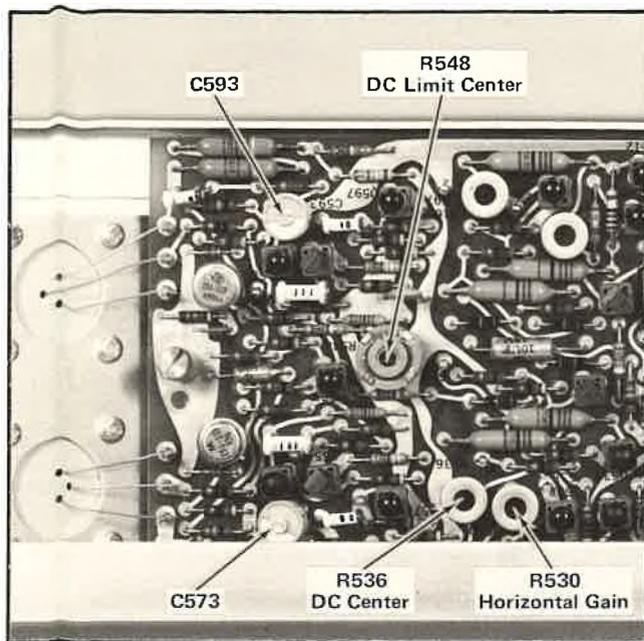

Fig. 5-8. Horizontal Amplifier Adjustments.
g. ADJUST—Horizontal Gain control, R530 (see Fig. 5-8) for exactly eight divisions total spacing between the traces, corresponding to the center eight divisions on the graticule. Use the calibration fixture Position control as necessary to center the display.
i. ADJUST—Limit Center control R548 (see Fig. 5-8) for identical DC base line levels.
14. Check/Adjust DC Centering ①
f. ADJUST—DC Centering control R536 (see Fig. 5-8) to precisely align the free-running trace on the center vertical graticule line.
15. Check/Adjust Normal Timing and Linearity ①
f. ADJUST—C573 and C593 (see Fig. 5-8) for one marker every two divisions (use a low-capacitance screwdriver). Adjust these capacitors a little at a time, trying to maintain equal capacitances.
k. ADJUST—C573 and C593 (see Fig. 5-8) for one marker every two divisions while maintaining the best linearity. Position the display back and forth and check linearity over the entire sweep while making these adjustments.